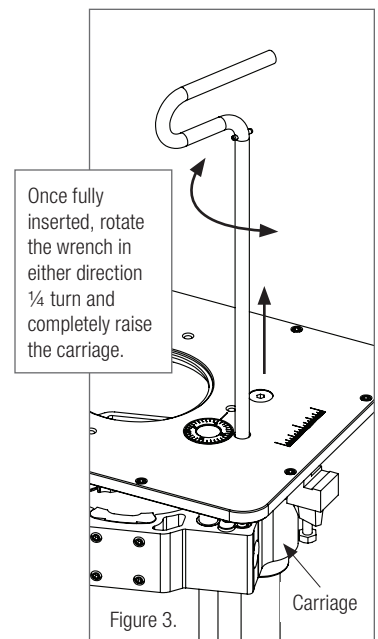

Figure 3.
Re-assemble the stretcher to the stand sliding all 3 of the square nuts on the left end of the stretcher into the t-slot in the leg. Make sure the Crank's side panel is parallel to the leg before tightening all of the mounting bolts, **Fig. 3**.
Attach the Side Winder Crank's side panel to the brackets using (2) 1/4-20 x 1-1/2" hex bolts with washers and hex nuts, **Fig. 3**.